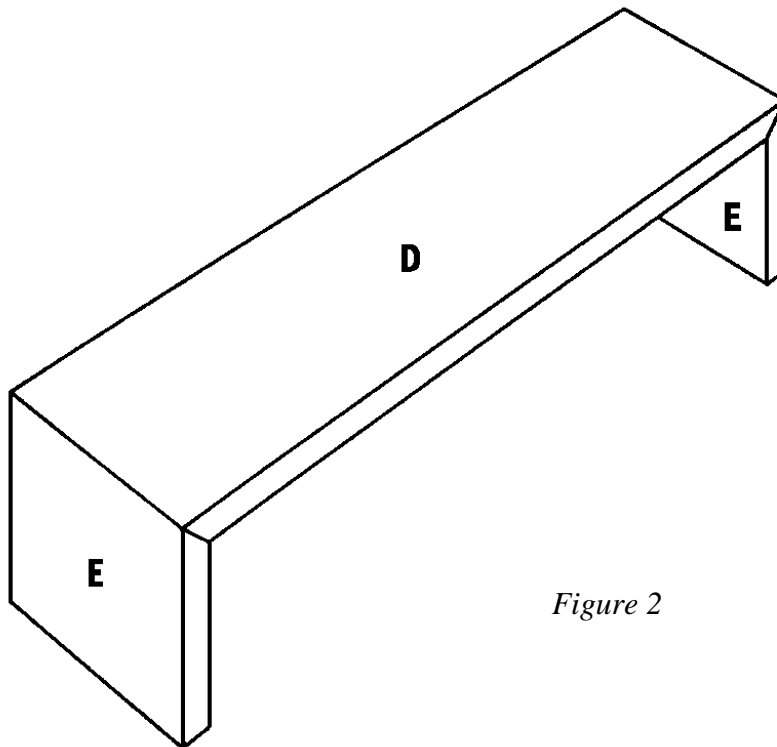

Figure 2
1. Cut one Base Front (D) from 3"-wide beaded molding, measuring 26-5/8 inches. Using *Figure 2* as a guide, miter both ends of the molding at opposing 45-degree angles.
2. Cut two Base Sides (E) from 3"-wide beaded molding, each measuring 6 inches. Refer to *Figure 2* to miter one end of both Base Sides (E). **Note:** the mitered ends must oppose each other to fit correctly.